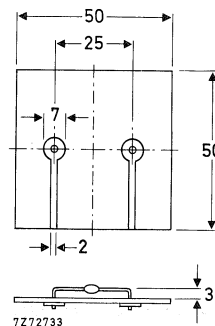

Fig. 2 Device mounted on a printed-circuit board.
2. Thermal resistance from junction to ambient; device mounted on an 1,5 mm thick epoxy-glass printed circuit board; Cu-thickness  $\geq 40\text{ }\mu\text{m}$ ; Fig. 2